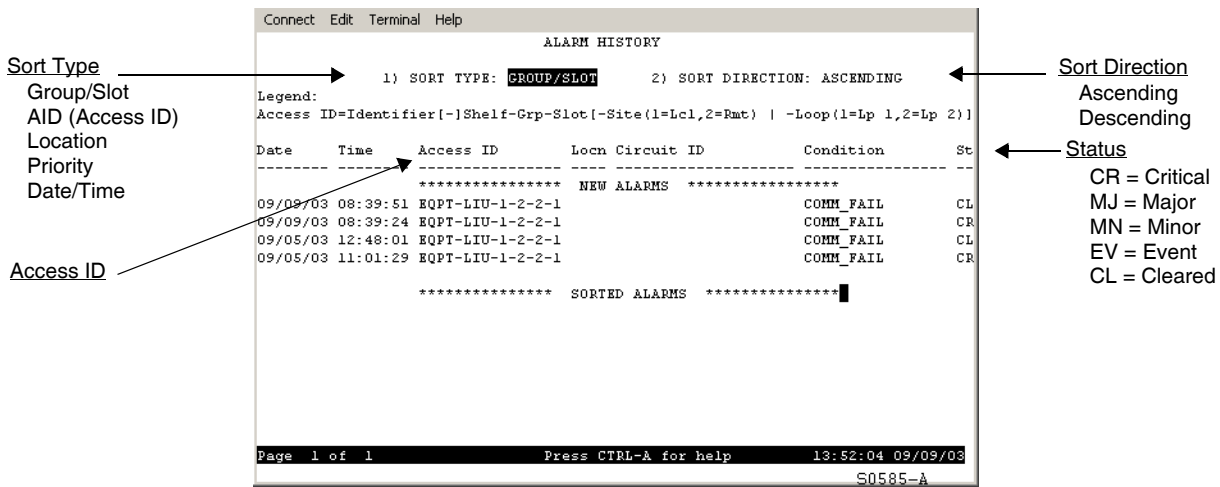

Figure 22. Alarm History Screen
- 2 Select **3. Display Alarm History** to display the Alarm History screen (see Figure 22).